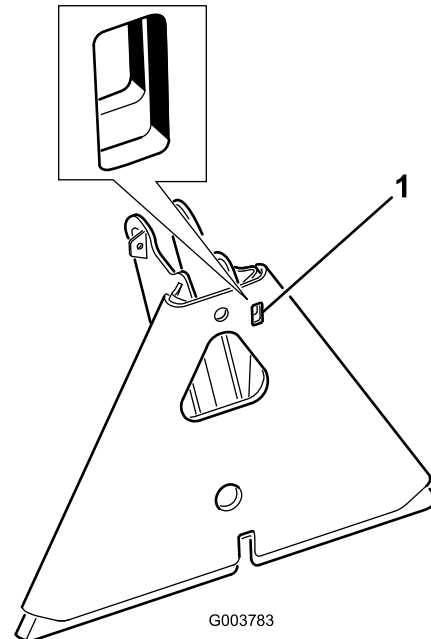

Figure 19
**Note:** If the attachment adapter becomes stuck to the traction unit adapter, insert a pry bar or a screwdriver into the pry slot to disengage the parts (Figure 19).